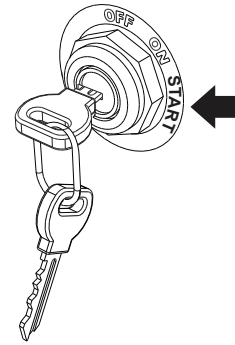

Figure 20. Engine Ignition Key
8. Turn the engine ignition key (Figure 20) to the **START** position and hold it until the engine starts. When the engine starts, release the key, allowing it to return to the **ON** position.